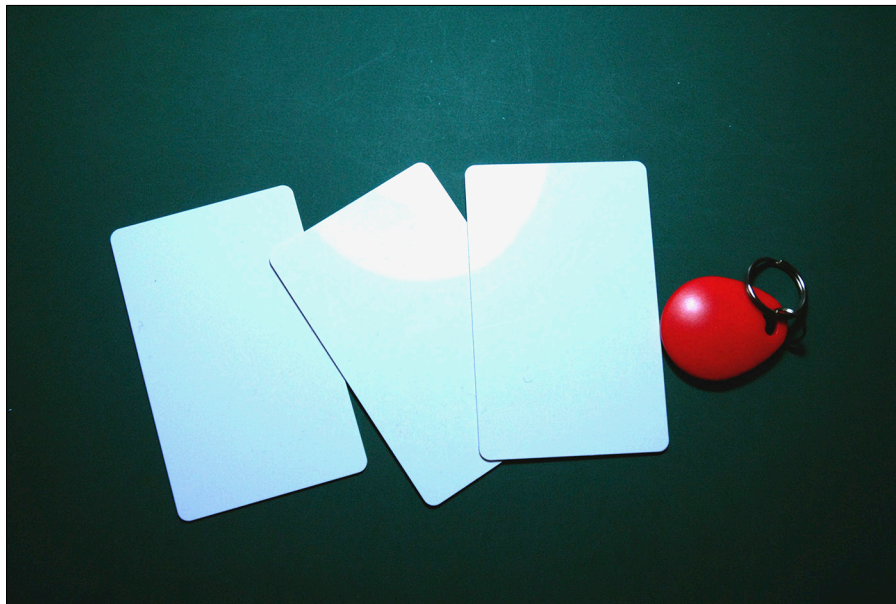

Figure 9-1:
The tag is an electronic circuit that is usually embedded within some kind of practical physical package, depending on the particular application. Figure 9-1 shows some examples. For security access, the circuit is embedded into plastic cards the same size as credit cards, which are easy to carry around in wallets and purses. Other examples include key fobs and self-adhesive labels. The variety is almost endless. Thinner and cheaper systems are used for inventory control. More expensive and bulkier systems are used for things such as shipping container tracking and electronic toll road systems, including SpeedPass or E-ZPass.
The parts you need to build the reader are shown in Figure 9-2. This list only includes the parts for the reader, but you also need a tag or tags to read. You can choose from literally hundreds of RFID tags. The key fob 125kHz RFID tag shown in Figure 9-1 would work just fine.
- ✓ A 125kHz RFID tag, such as the key fob tag shown in Figure 9-1 (Cool Components #000648). SparkFun sells a plain white credit card style tag, too (SparkFun #COM-08310).